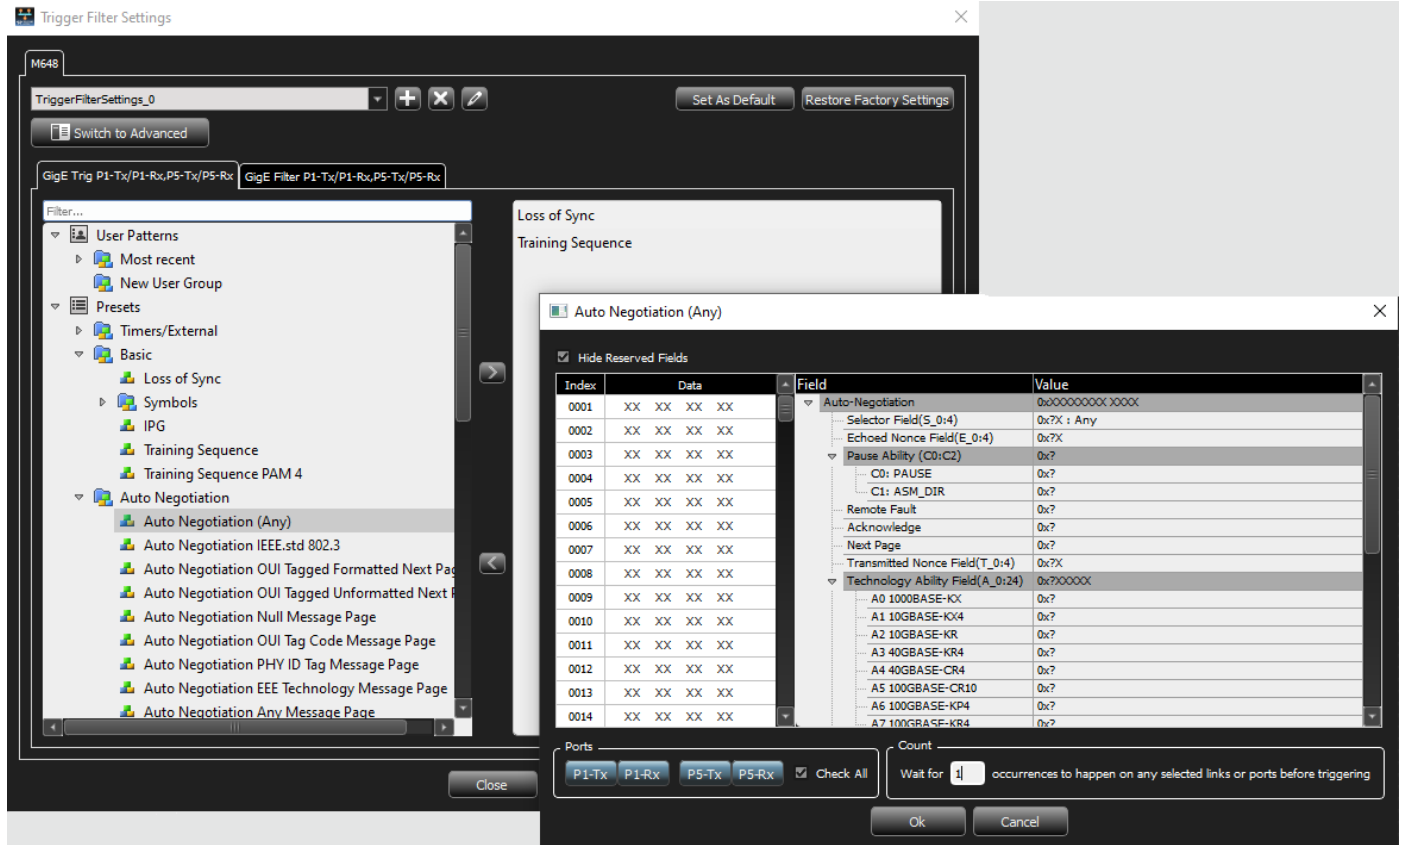

Figure 4.109: Example Auto Negotiation Patterns with Auto Negotiation (Any) Selected
2. Double click on the pattern you need (Figure 4.109).